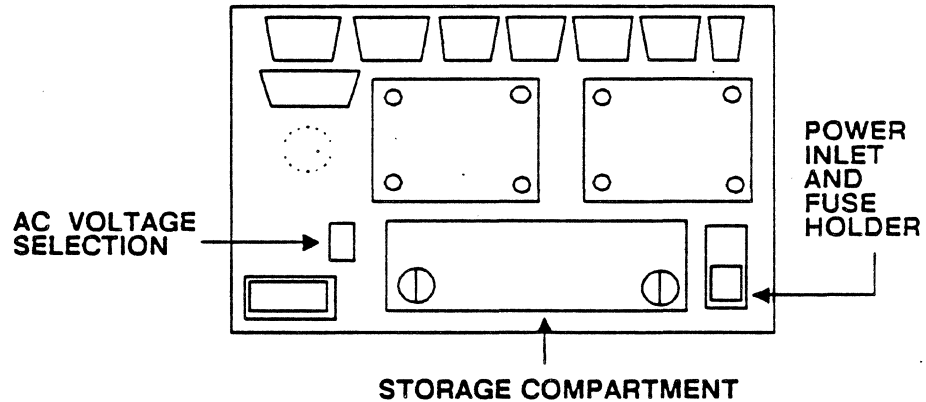

Figure 1.1: Chameleon 32 (Rear View)
2. Verify that the Chameleon 32 is set to the correct AC voltage setting for your country. This has been preset at the factory, but should be checked before the Chameleon 32 is powered on. The AC Voltage Selection is on the rear of the Chameleon 32, as indicated in Figure 1.1 on the following page.
4. Plug the power cord into the power inlet of the Chameleon 32, as shown in Figure 1.1.